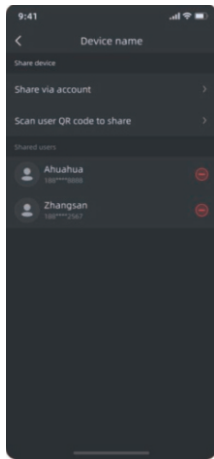

Figure 2
2)Figure 2: Supports sharing devices through accounts or QR codes;Display shared users.